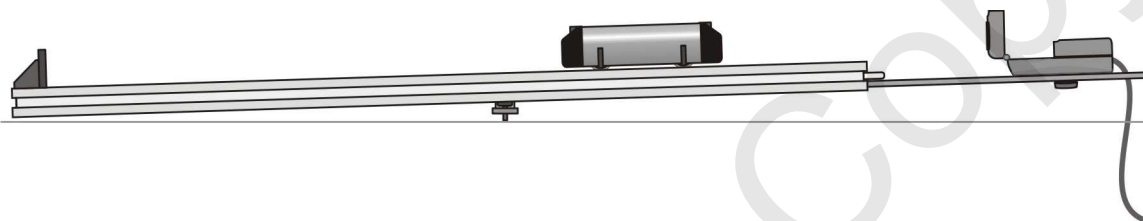

Figure 1
2. Confirm that your Dynamics Track, Adjustable End Stop, and Motion Detector Bracket are assembled as shown in Figure 1. Adjust the head of the Motion Detector so that it is pointing straight down the track, or angled up just a little.